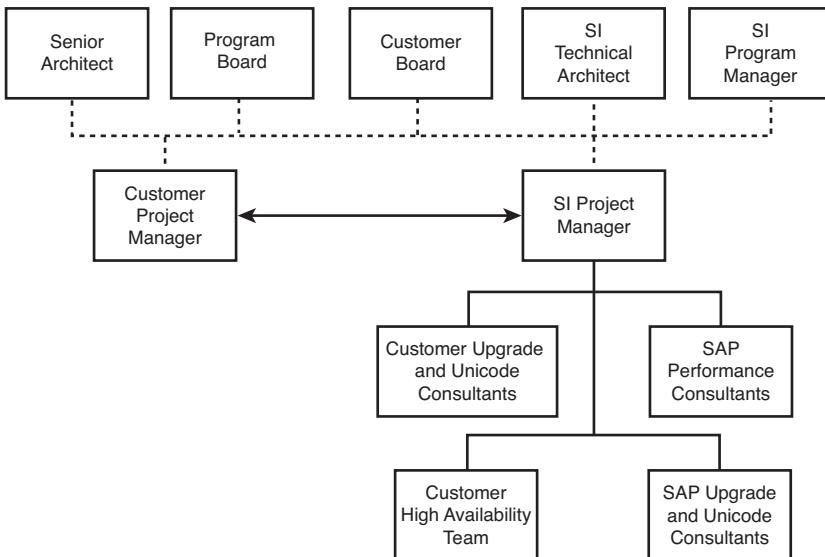

FIGURE 11.3 A time-tested SAP Unicode upgrade project structure example.
Figure 11.3 shows the relationship between a project's systems integrator (SI), customer project manager, and various subteams shown to be especially useful in an SAP upgrade project.